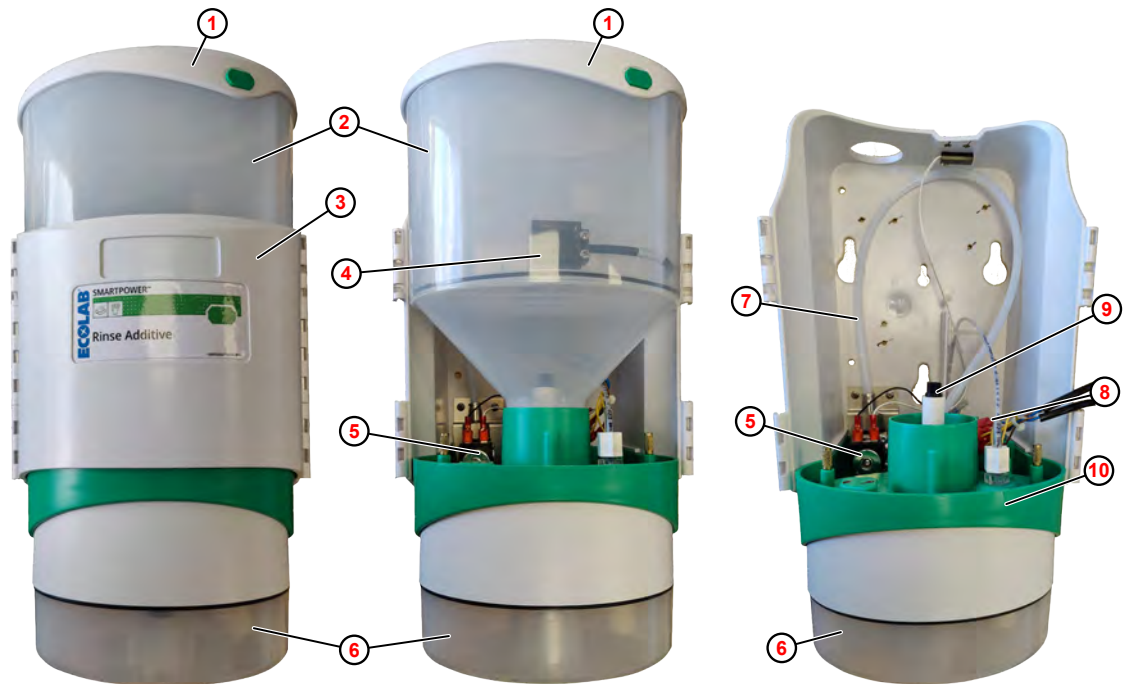

Fig. 1: Setup
The SMARTPOWER™ Rinse Dispenser is an automatic dispenser for Ecolab pressed rinse aid products. It essentially consists of a base (Fig. 1 , ⑩), a product cylinder with product feed ② to accommodate the compressed rinse aid, a solenoid valve ⑤ and a spray nozzle ⑨ . To improve the rinse aid concentration and concentration consistency, the clean water can be dispensed in pulse mode with a Rinse-Pulse-Timer board . The Rinse-Pulse-Time board is built in to the rear wall behind the product cylinder.